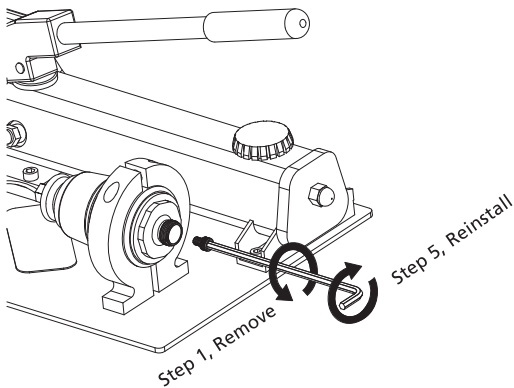

Fig. 1 Hex Head Screw Removal / Reinstallation
1. Screw the hex head screw counterclockwise and take out from the die head using the hex wrench. See Fig. 1.
5. Screw the hex head screw into the die with a the wrench clockwise. See Fig. 1.